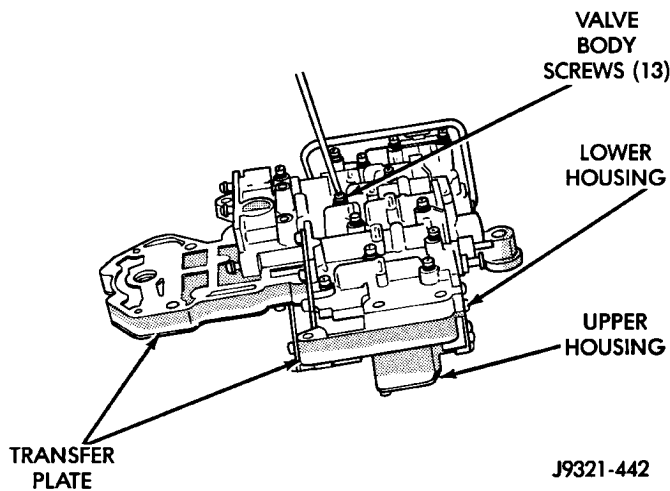

Fig. 77 Installing Lower Housing On Transfer Plate And Upper Housing
(5) Install lower housing on assembled transfer plate and upper housing (Fig. 77).
(6) Install and start all valve body screws by hand except for the screws to hold the boost valve tube brace. Save those screws for later installation. Then tighten screws evenly to 4 N·m (35 in. lbs.) torque. Start at center and work out to sides when tightening screws (Fig. 77).